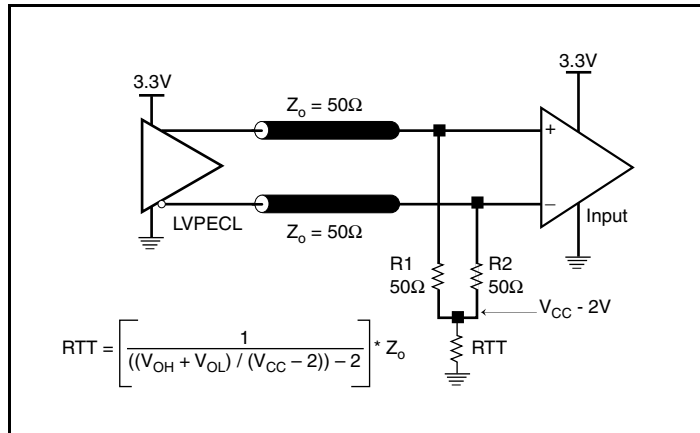

Figure 8A. 3.3V LVPECL Output Termination
*Figures 8A and 8B* show two different layouts which are recommended only as guidelines. Other suitable clock layouts may exist and it would be recommended that the board designers simulate to guarantee compatibility across all printed circuit and clock component process variations.